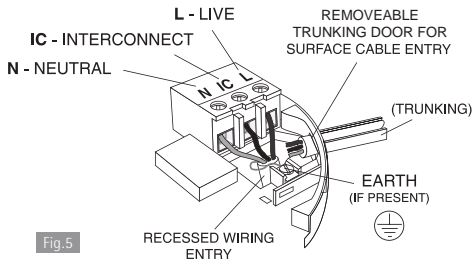

Fig.5
**IC: Interconnect** - see figures 5 and 6 and further information in Section 2.6.
**4.** If the mains wires are recessed, bring the wires through the rear hole in the mounting plate as shown in Figure 5.
- position the mounting plate so the cable trunking is as shown in Figure 5.